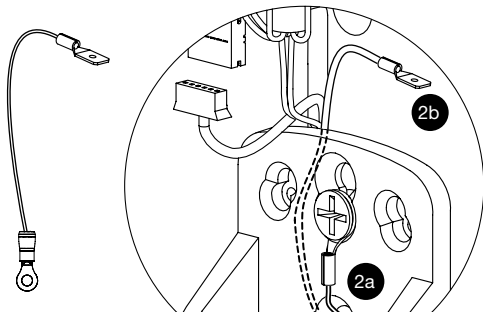
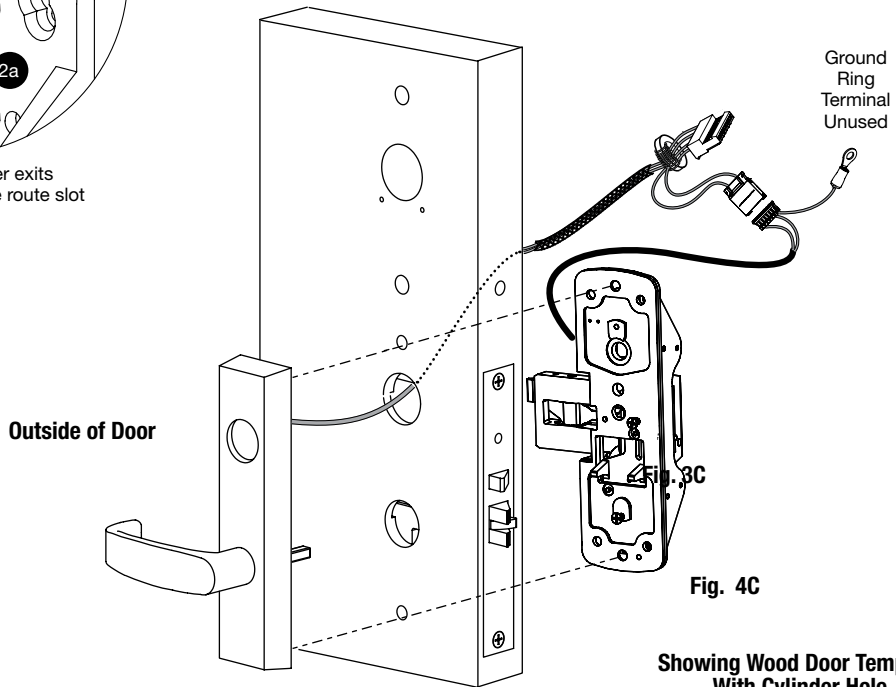

Fig. 4B Detail
Fig. 4C
- a. Spade connector of ground ring terminal wire fits through the hole (beneath the top screw) in the chassis and connects to lug on ground harness (Fig. 4B Detail).
- b. Route the ground ring terminal and secure through the top center hole with the top 1/4-20 x 2-3/8" flat head machine screw (Fig. 4B Detail).
4. Secure chassis and ET with (2) 1/4-20 x 2-3/8" flat head machine screws.
5. Connect ET harness and connector from chassis (Fig. 4C).
2. Attach the other leg of the ground harness to the spade connector that was routed through the top hole in the chassis in Step 4, #2 (Fig 4B Detail).